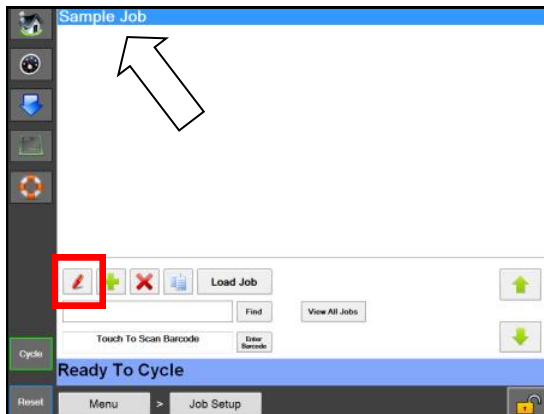

Figure 78A. Editing Job.
2. From the Job Setup Screen, highlight the job to be edited and press the Red Pencil button. **Figure 78A.**